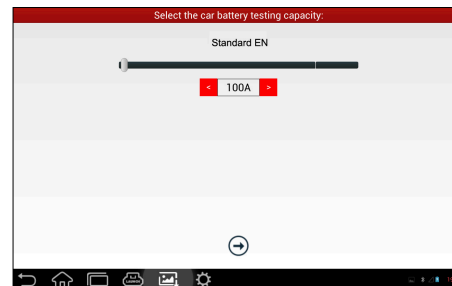

Fig. 7-6
6. Select a testing standard except for JIS and tap , a screen similar to Fig. 7-6 will appear. Users can adjust capacity size by tapping on < or > or by dragging the slider on the bar.